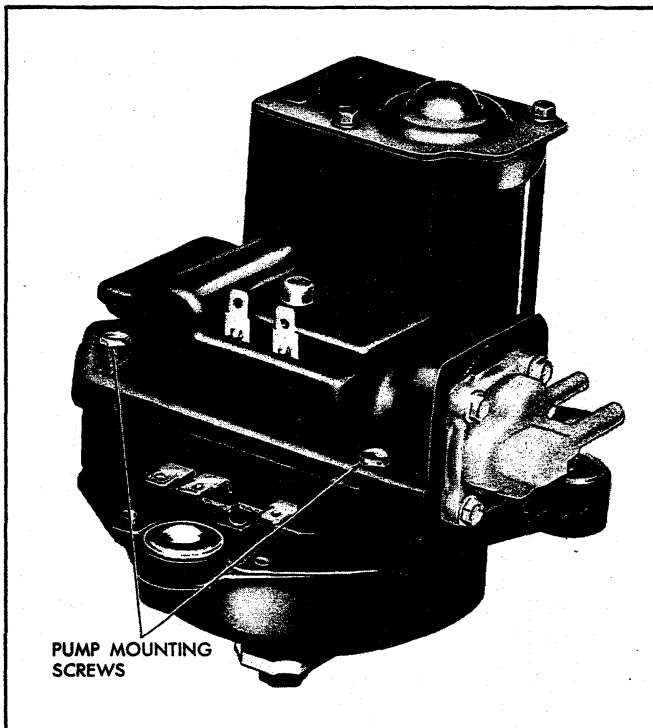

Fig. 66 - Washer Pump - Attach Screws
1. For wipers equipped with a washer pump, remove the two washer pump mounting screws (fig. 66) and lift pump off washer.
2. Remove the two pump-to-wiper retaining screws and remove washer from wiper (fig. 66).